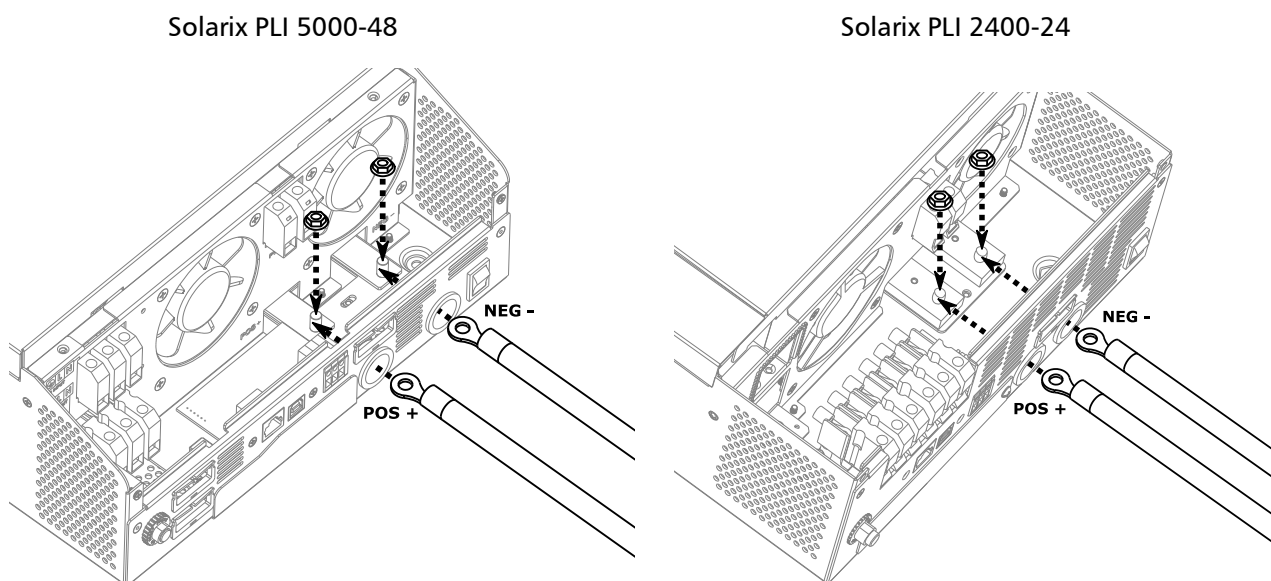

Figure 6: Battery cable connection
8. Insert the ring terminal of the battery cable flatly into the battery connector screws of the inverter, then tighten the M6 nuts with a torque of 2 - 3 Nm (see *Figure 6*). Make sure the polarity at both the battery and the inverter is correct and the ring terminals are tightly screwed to the battery terminals, ensuring a good electrical connection.